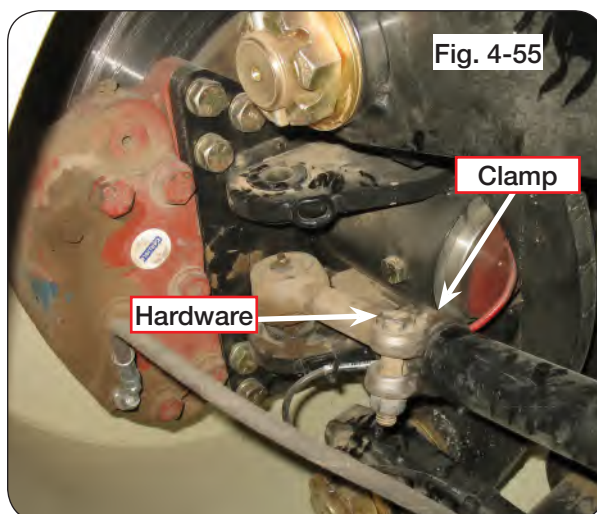

Fig. 4-55
**NOTE:** Make sure the capscrew on the clamp is facing away from the clevis and spindle to prevent interference when steering. (Fig. 4-55)